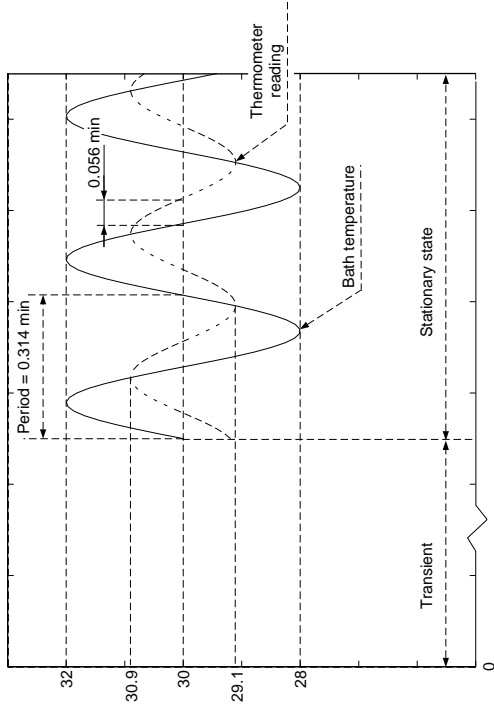

Figure 4.1a
4.1 A mercury thermometer can be described with high accuracy as a first order linear time invariant dynamic system. The input is the real temperature and the output is the thermometer reading. In order to decide the transfer function in a thermometer it is placed in liquid where the temperature is varied as a sinusoid. The obtained result is shown in Figure 4.1a. Find the transfer function of the thermometer.